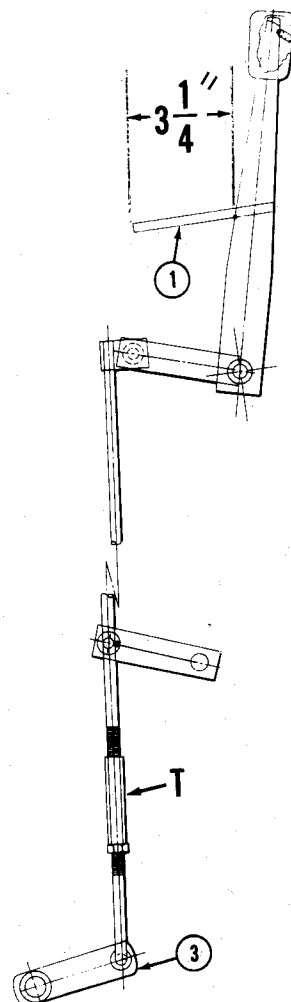

Fig. 191—Rotate turnbuckle (T) on Models TW-10, TW-20 and TW-30 to adjust pto control rod as outlined in text.
To check and adjust pto clutch control rod on TW-10, TW-20 and TW-30 models, refer to Fig. 191 and with pto lever (3) in off position, adjust turnbuckle (T) so pto handle is 3 1/4 inches from front of slot (1).
Fig. 190—View showing adjustment points for pto control linkage. Models 8700 and 9700 are shown in View "A" while 8000—9000—8600—9600 models are shown in View "B". Refer to text for procedure. See Fig. 191 for pto adjustment on Models TW-10, TW-20 and TW-30.